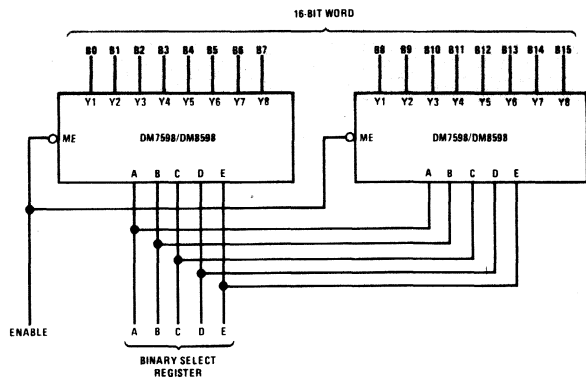

FIGURE 3.
*Figure 3* indicates how multiple packages can be used to increase word length.